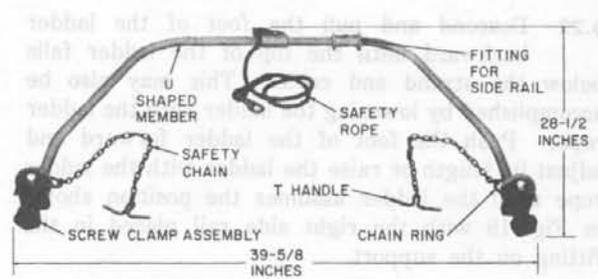

Fig. 17—C Ladder Support
6.20 The *C Ladder Support* is illustrated in Fig. 17. It consists of two screw clamp assemblies grooved to fit the strand and permanently attached to a U-shaped member made of aluminum alloy pipe. The clamps are equipped with chains for encircling the cable and strand as an added safety measure. The U-shaped member is for rigidly supporting the ladder away from the strand. A rope, attached to the center of the member, is tied to a rung of the ladder as a safety measure while placing the ladder in the support. The U-shaped member is also equipped with a fitting to receive one side rail of the ladder for locating the ladder centrally in the support. The grooves in the clamps permit attaching the support to either lashed, ring-supported, or self-supporting cable without disturbing the cable.